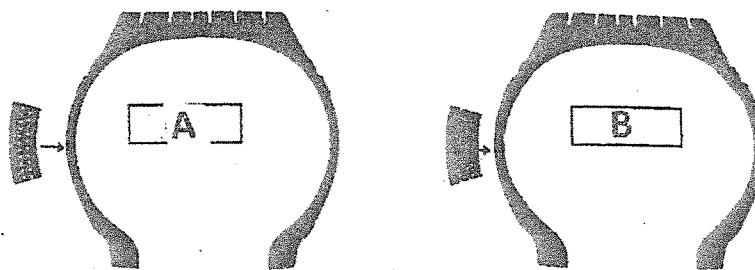

FIGURE 6
- 5.3 FIGURE 6 Diagram SHEET 3 (attached) shows two sketches of tyre ply constructions.
- Name the tyre type marked A and B in the ANSWER BOOK. (2)